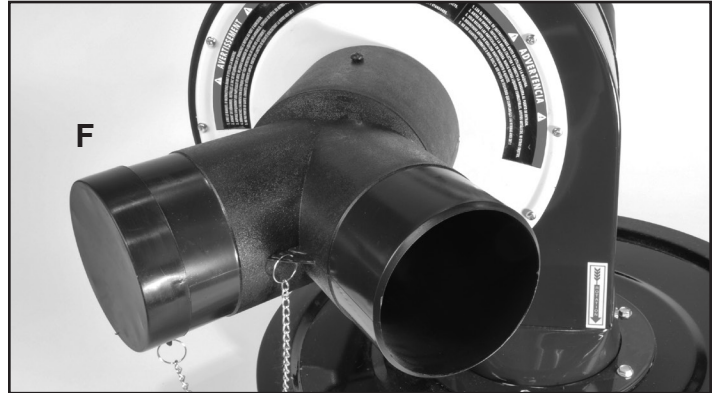

FIG. 4
2. Secure the 'Y' inlet in place with the supplied Phillips head screw (#45). Figure 4.